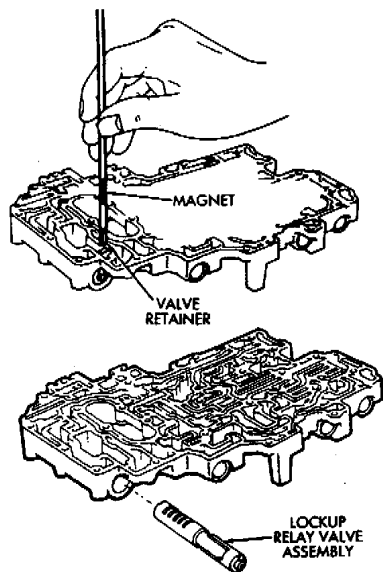

Fig. 8 Removing/Installing Lockup Relay Valve
(7) Remove second coast modulator valve retainer and remove valve plug, spring and valve.
(8) Remove lock-up relay valve retainer and remove relay valve and sleeve assembly (Fig. 8).
(8) Install assembled lock-up relay valve in valve bore and install retainer (Fig. 8).